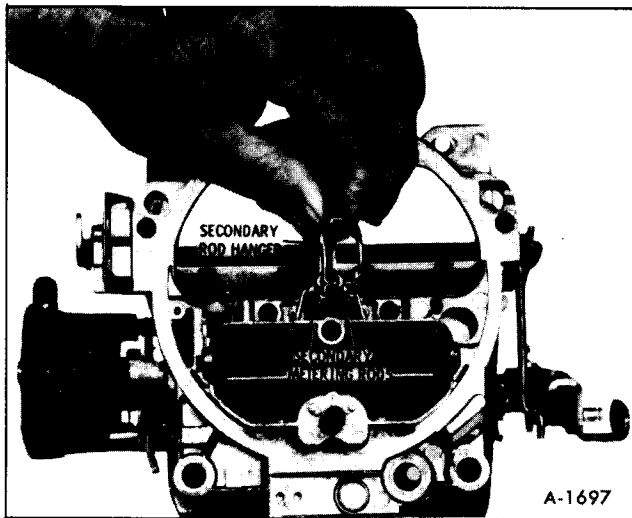

Figure 11—Secondary Metering Rods
4. Remove secondary metering rods by removing the small screw in the top of the metering rod hanger. Lift upward on metering rod hanger until the secondary metering rods are completely out of the air horn. Metering rods may be disassembled from the hanger by rotating ends out of the holes in the end of the hanger (See figure 11).